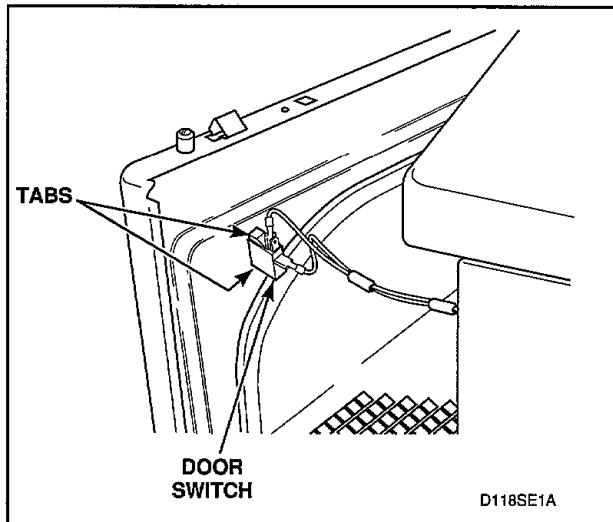

Figure 11
- l. Disconnect wires from door switch, *Figure 11*.
- k. Disconnect wires from door switch, *Figure 11*.
- Disconnect wires from door switch, *Figure 11*.